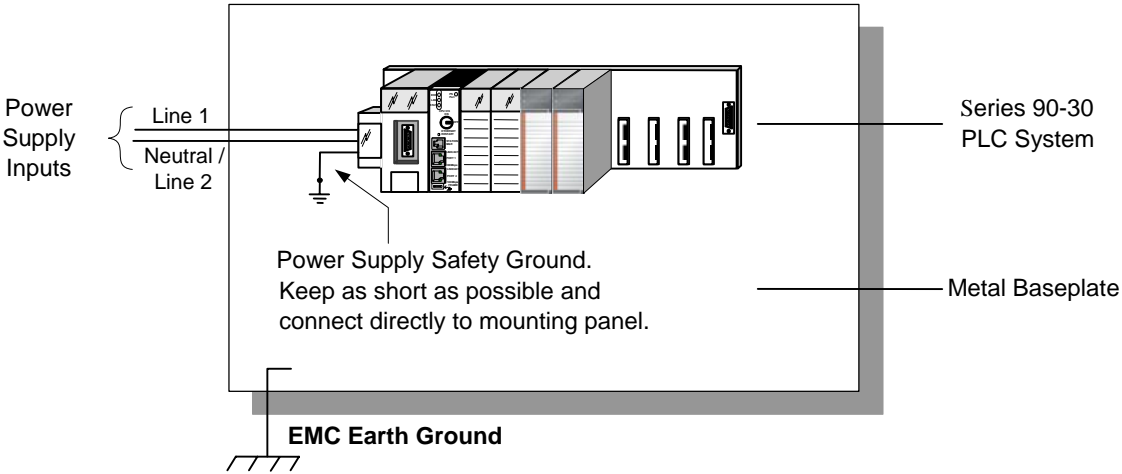

Figure 1-4. Installed PLC System
- An external ground wire (16 AWG [1.32mm2] of shortest possible length approximately 6—7" [15.24—17.78cm]) must be wired from the Series 90-30 power supply safety ground wire terminal to the metal base plate. See Figure 1-4.